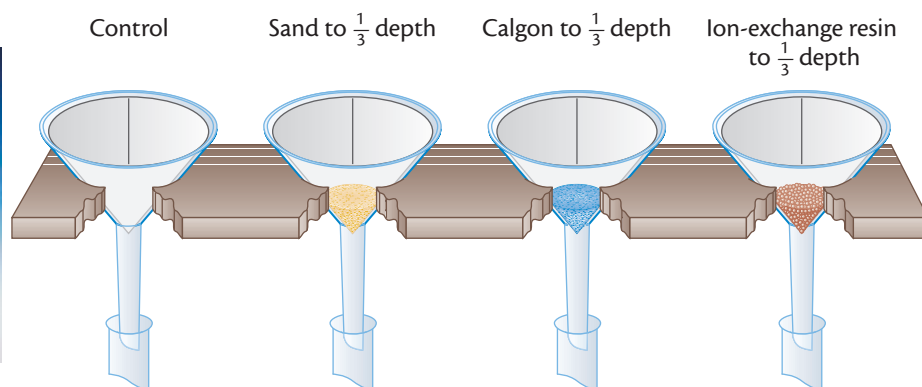

Figure 33 Filtration setup.
2. Prepare the equipment as shown in Figure 33. Lower the tip of each funnel stem into a test tube supported in a test-tube rack.